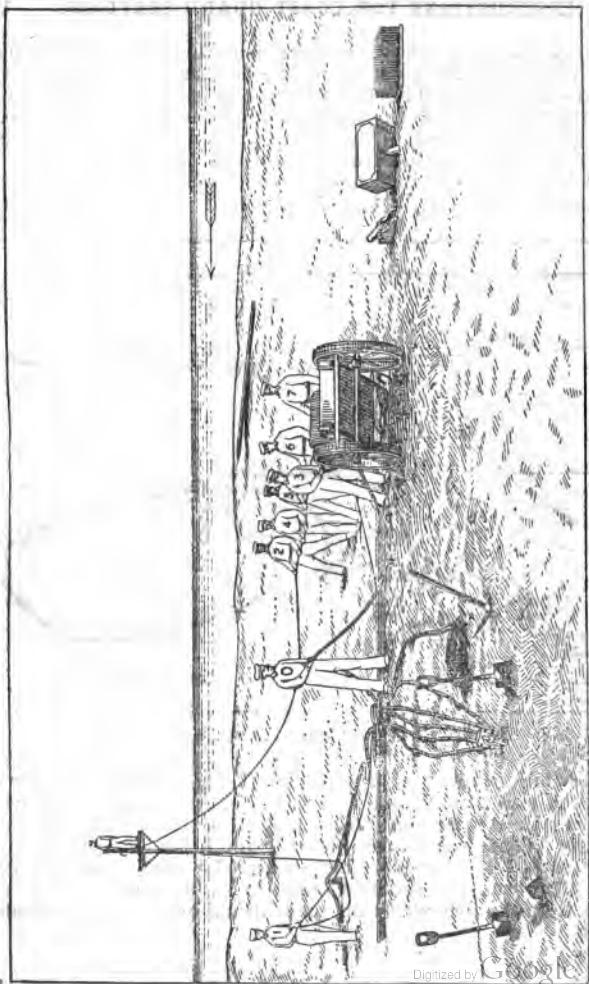
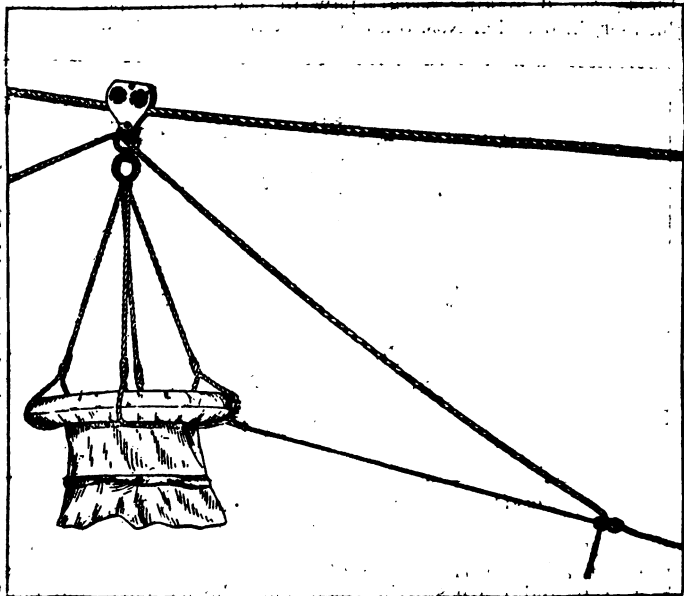

FIG. 9.—Hauling off hayser.
FIG. 10.—Manner in which whip is attached to breeches buoy.
(14) The men man the weather part of the whip, excepting the lee man (No. 1 or No. 2), who tends the lee part of the whip, keeping it clear of the hawser, which will drift to leeward of it, and the lee man (No. 3 or No. 4), who hauls the whip from the reel. The officer in charge hauls the hawser from the cart and lights it to the surf. (See fig. 9.)
(15) The hawser having reached the wreck, the lee man (No. 1 or No. 2) holds the breeches-buoy block while the officer in charge throws over it a clove hitch with the bight of the weather part of the whip, and hauls it snug around the neck. The block is then snapped on the hawser by the holder, and the officer in charge bends the buoy bridle into the whip, *inshore* of the buoy, with a bowline knot.
(16) If the wooden buoy block is used, the buoy is passed down through the loops of the clove hitch and the hitch hauled very snug around the neck of the block. (See fig. 10.)
(17) When a threefold purchase is used the pennant block is dispensed with, and as soon as the hawser is made fast to